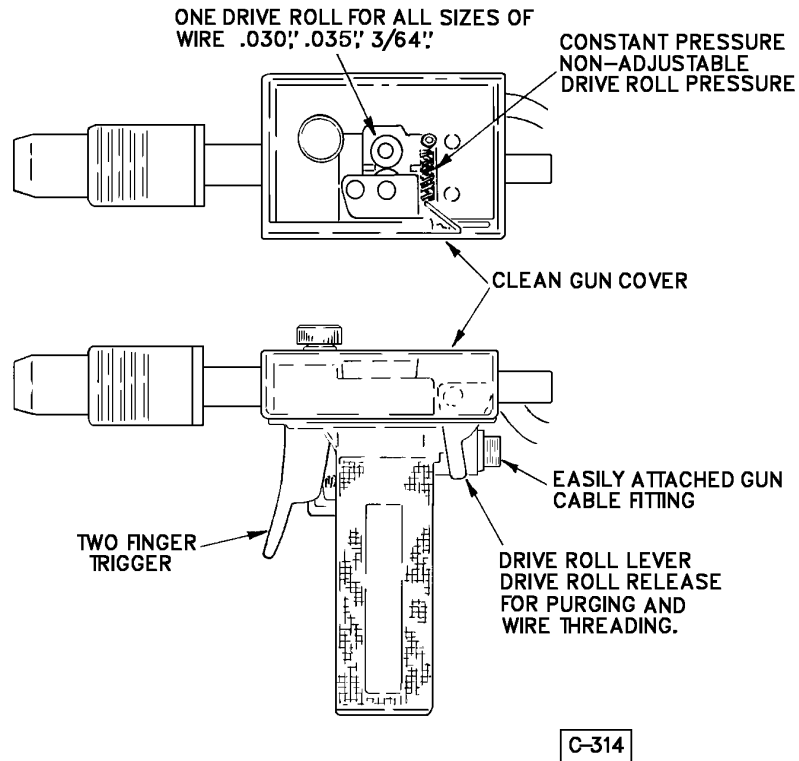

Figure 3-3 Special Features of AG-2000 Gun
The AG-2000 Welding Gun incorporates the following features, as shown in Figure 3-3.
5. Open drive roll with Drive Roll Lever (see Figure 3-3).